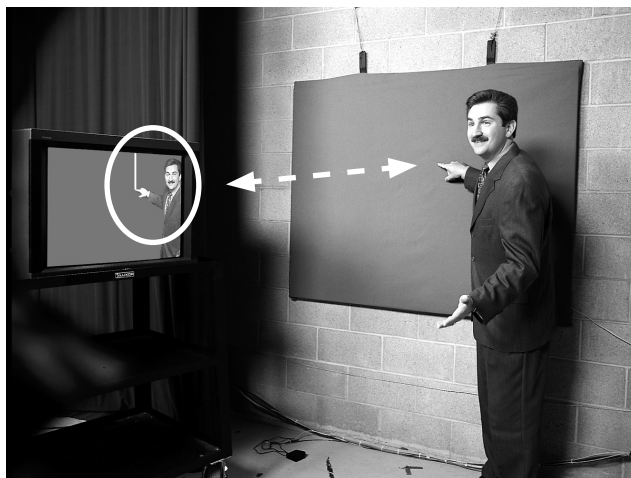

Figure 3 – **ALIGN MARKINGS WITH TALENT MOTIONS** Pan and tilt the camera to align horizontal and vertical markings drawn by talent.
- 3. ALIGN Markings with Talent Motions** – Perform steps A and B below to match the on-screen markings with the Talent’s drawing motions. Be sure the Pointmaker video marker is operational, and that the camera operator (or someone directing him/her) is watching a monitor displaying both the talent and the markings. *Refer to Figure 3 on back.*